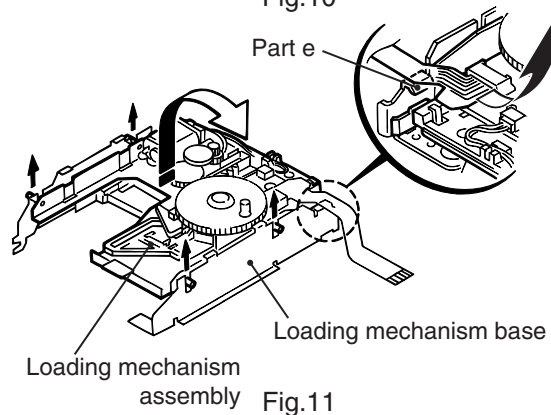

Fig.11
■ **Removing the loading mechanism assembly** (See Fig.11)